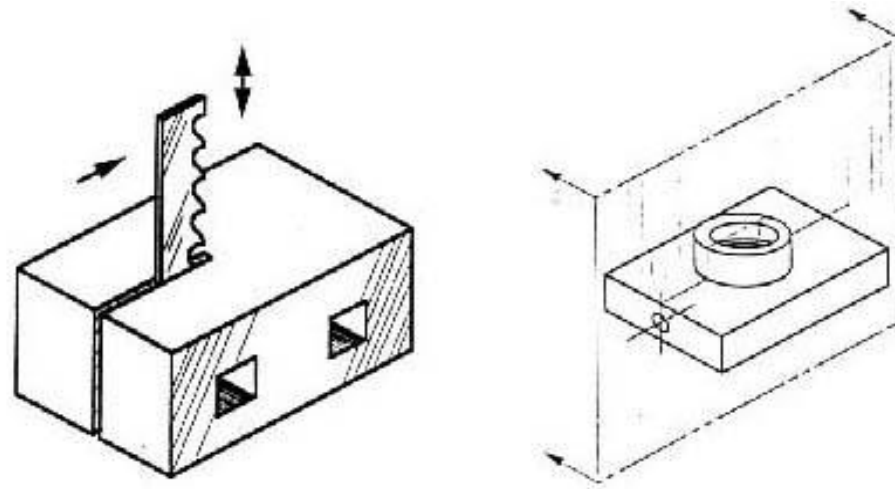

Figure 9 - "Sectioning" an object
- Imagine slicing the object in the middle (figure 9):